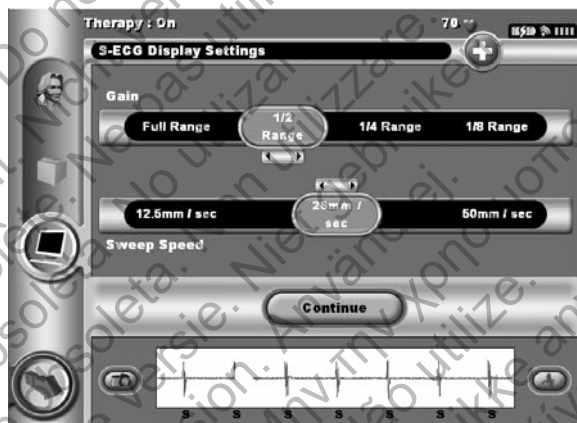

Figure 42: Adjusting Gain and Sweep Speed
2. Select and drag the Gain or Sweep Speed Scale bars as desired (Figure 42). The S-ECG scale will change according to the selected setting. The gain setting controls the visual gain. The programmer defaults to Full range for devices with an SQ-RX device gain setting of x1 and to Half range for devices with an SQ-RX device gain setting of x2. The Sweep Speed slider controls the display speed of the scrolling Live S-ECG. The nominal sweep speed setting is 25 mm/sec.